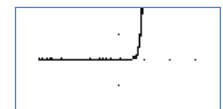

Figure 59: 1N4148 curve
- 1) Build the circuit shown on figure 59.